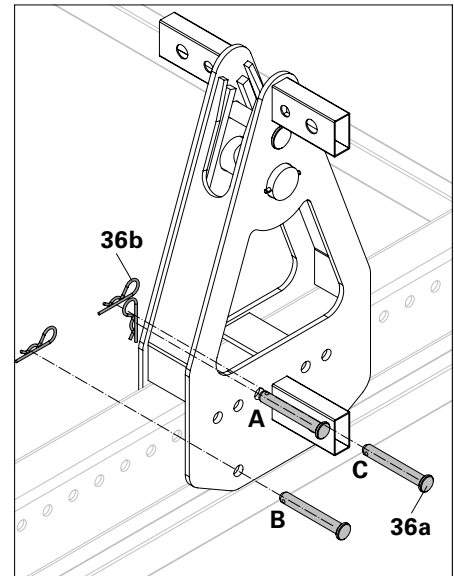

Fig. A11.01a
Release Cotter Pins (36b) and Bolts (36a) on the Bearer (36) – 3x per Bearer. (Fig. A11.01a)